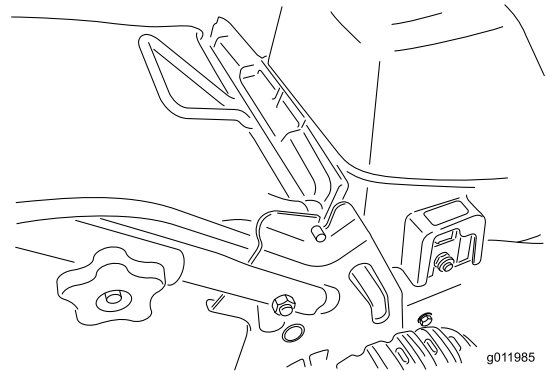

Figure 10
2. Inset the grass bag handle onto the notches on the handle brackets (Figure 10).